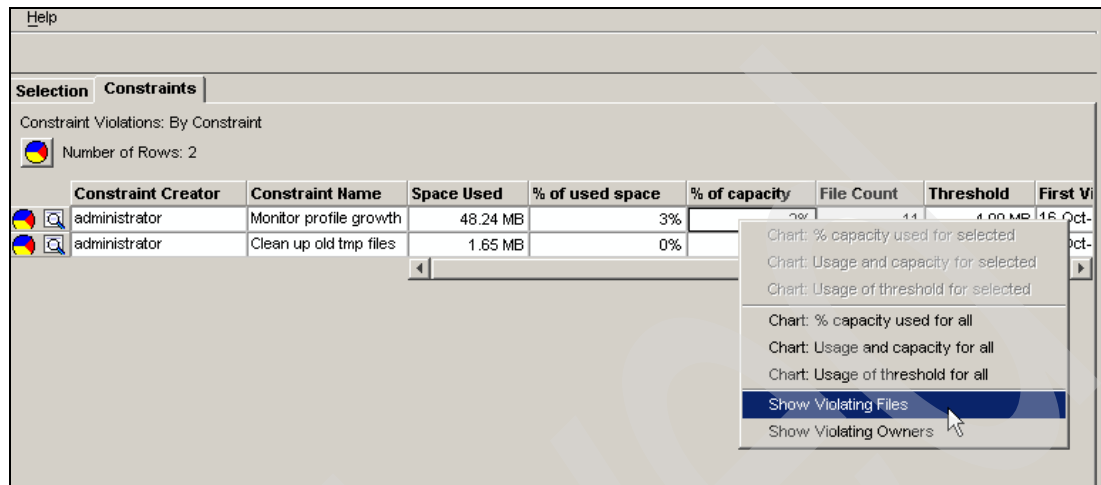

Figure 2-45 Constraint reports
- This produces a report for all constraint types unless you choose to filter it. Figure 2-45 shows that the Monitor profile growth constraint has been triggered and that there are 48.24 MB of files that are MP3 files that were created in the last day. Right-click the constraint and you can choose either **Show Violating Files** or **Show Violating Owners**.